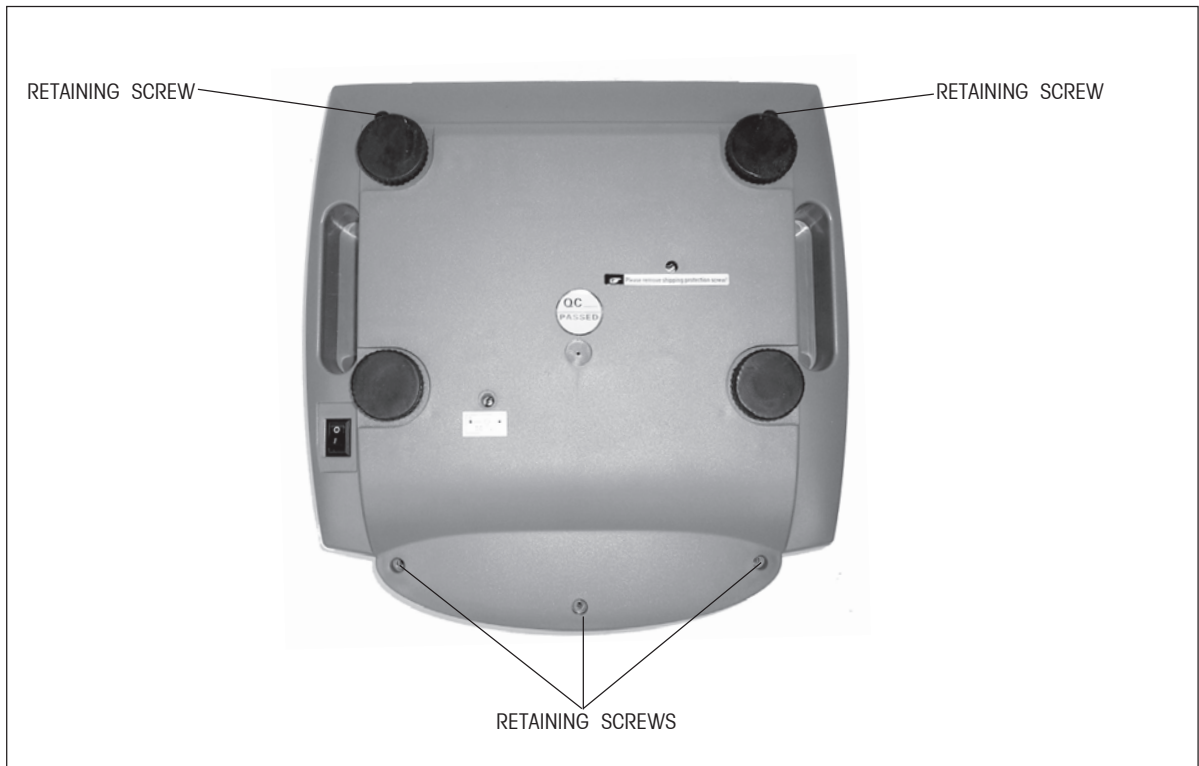

Figure 4-1. Top Housing Retaining Screws Location.
3. Turn the scale over and remove the five screws, which hold the Top Housing. Refer to Figure 4-1.